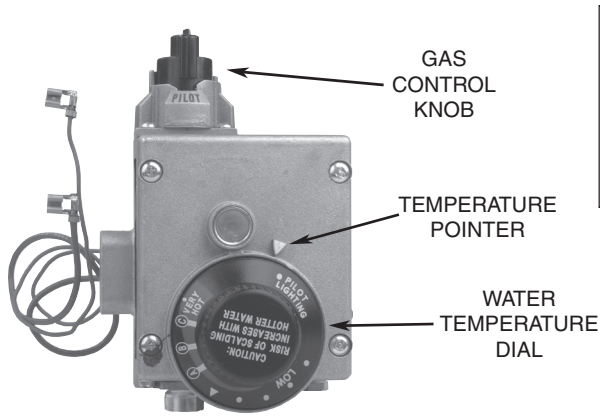

Figure 2. Gas Control Knob and Water Temperature Dial
2. Locate the gas control valve/thermostat. Before performing any maintenance, turn the temperature dial on the gas control valve/thermostat to the lowest setting. (See To light Appliance Figure 2)